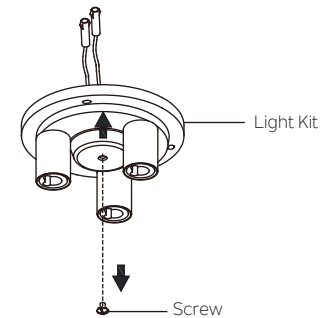

Fig. 22
Step 1. Remove the screw on the middle hole of light kit and save it for reuse on the step 5. (Fig. 22)